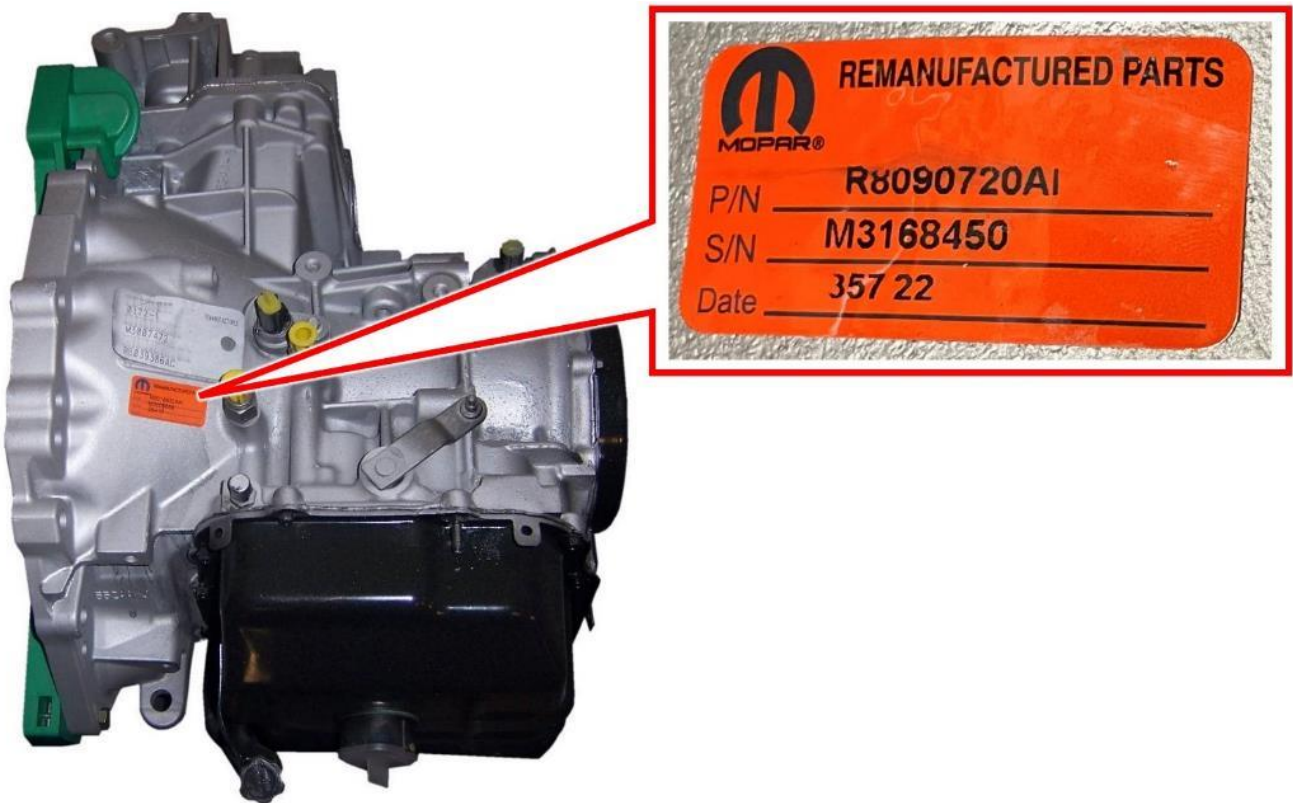

Figure 2 – Remanufactured Transmission – Inspect Serial Number
1. Inspect the transmission for an orange sticker indicating that it has been remanufactured (Figure 2).
2. If an orange remanufactured sticker was located on the transmission, read the sticker Serial Number (Figure 2).